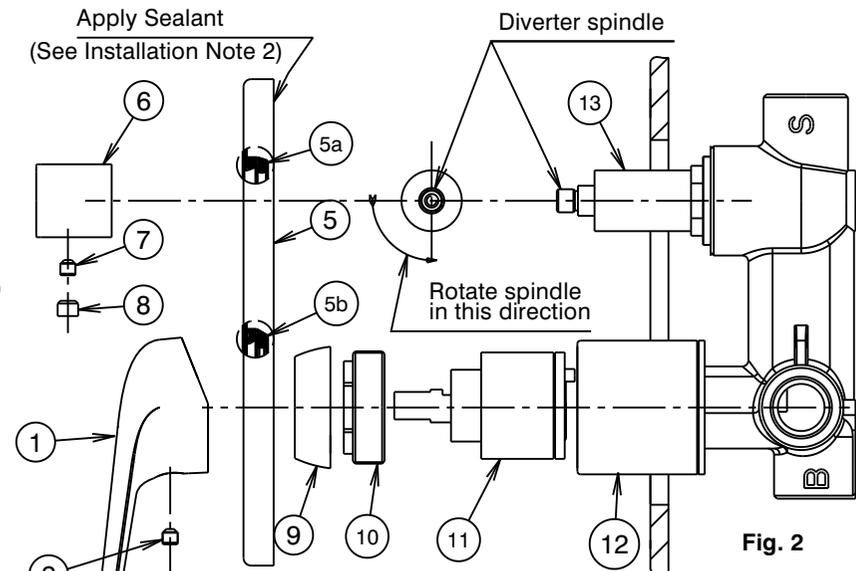
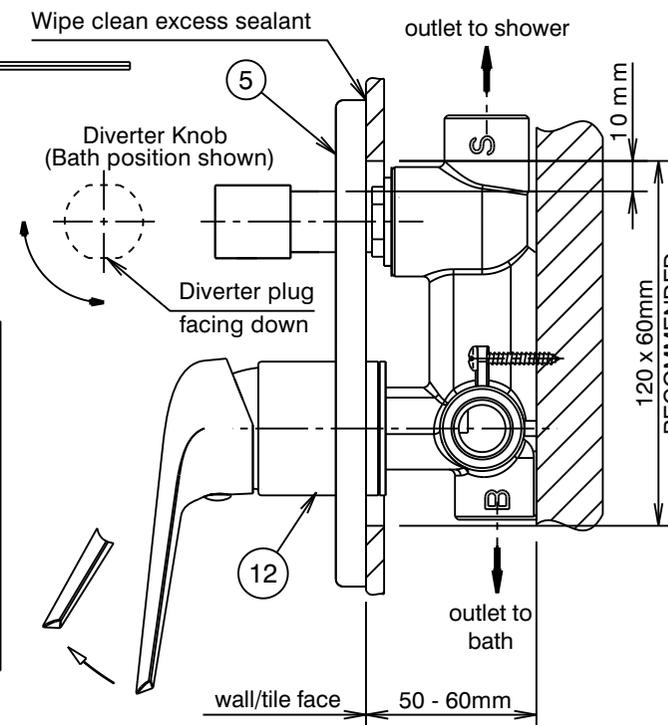

Fig. 2
Fig. 1
### Installation (Fig. 1 & 2)
- \* Mixer body (12) must be installed square to wall/tile face, to ensure cover plate (5) sits flush.
- 2) **Trim kit:** Apply a suitable clear sealant to the back edge of the cover plate (5), leaving an unsealed section at the bottom for drainage. Check that the diverter sleeve (13) is tightened securely. Rotate the spindle of diverter in an anti-clockwise direction to the stop position (Fig.2). Check that the seals (5a) & (5b) are fitted in the cover plate (5) as shown, then carefully slide the cover plate (5) over the mixer body (12) and diverter sleeve (13). Push the cover plate (5) firmly against the wall/tile face. Wipe/clean excess sealant from the chrome surfaces & the wall/tile face (See Fig. 1).
- 3) Fit diverter knob (6) onto the diverter spindle, ensuring the hole for screw (7) is facing downwards as shown (Fig.1), then tighten grub screw (7) using the 2.5mm allen key (3) and fit plug (8).
- 4) Fit handle (1) taking care that it is pushed fully onto cartridge stem, then tighten grub screw (2) using the 2.5mm allen key (3). Fit plug (4), taking care not to damage the decorative finish.
- Note:** To deliver water to the bath outlet, rotate the diverter knob (6) anti-clockwise with the flat face horizontal and the handle plug facing downwards. (Fig.1). To deliver water to the shower outlet, rotate the diverter knob (6) clockwise with the flat face in a vertical position.
### Replacing Cartridge (Fig. 2)